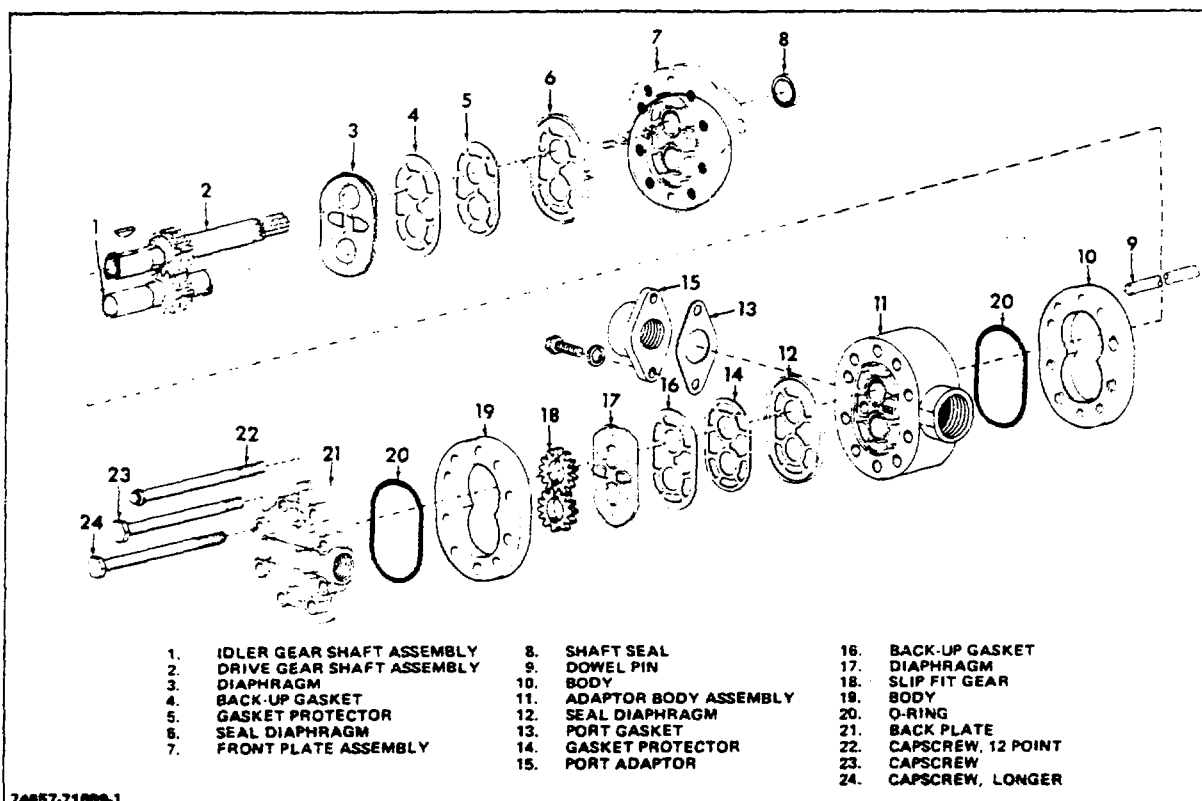

Figure 3-2. Type II Hydraulic Pump (Exploded View)
2. Scribe mark across back plate, body and dowel assembly, and frontplate to assure proper reassembly (Fig 3-2). If the back plate and body are rotated 1800, the pumping operation will be reversed.
1. Tuck diaphragm seal into grooves in front plate with open part of "V" section down (Fig 3-2).